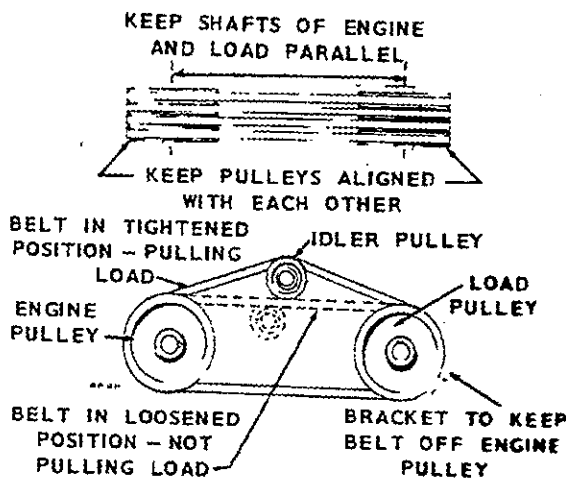

FIGURE 4. DRIVE BELT INSTALLATION
**Belt Drive:** V-belts are preferable to flat belts. Consult a reliable belting supplier for recommendations regarding size of pulleys, number of belts, etc required. A typical belt drive installation is shown in Figure 4.